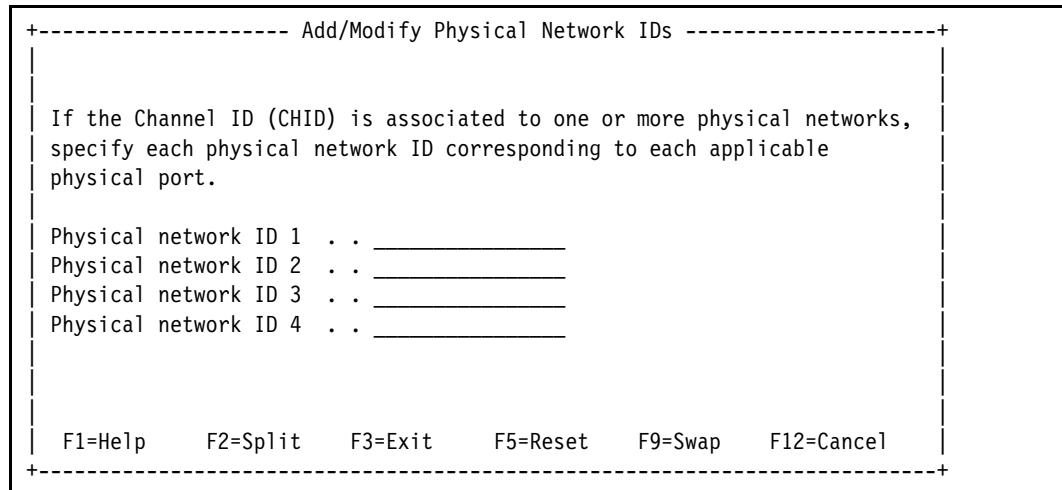

Figure 13-20 Processors: Add/Modify Physical Network IDs, OSD
9. Leave the default option for Physical Network IDs to blank fields (Figure 13-20), and press **Enter**.